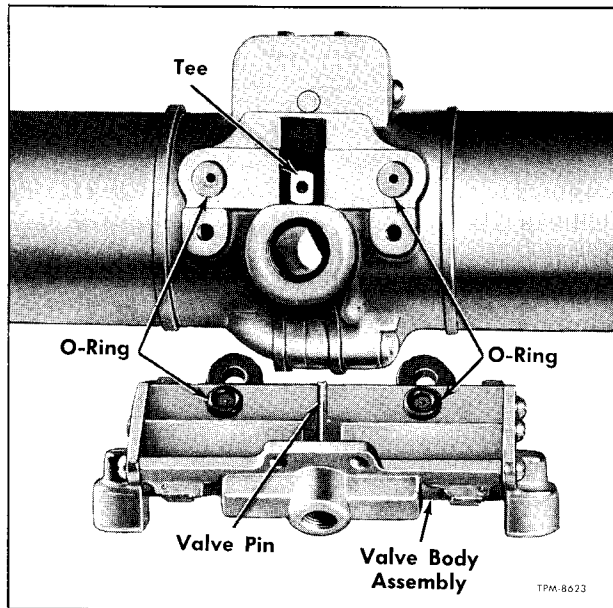
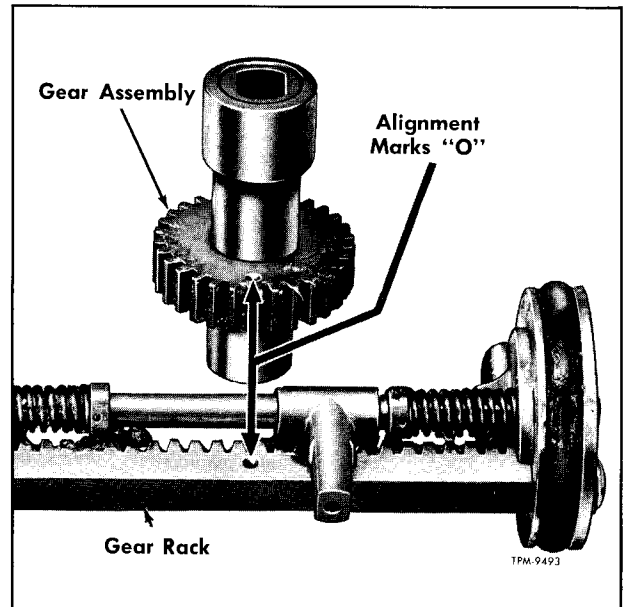

Figure 19—Windshield Wiper Motor Valve Body Removed
Figure 20—Gear-To-Gear Rack Timing Marks
1. Remove retainer (37) which attaches link (36) to motor shaft assembly (35).
2. Remove screw (13) and washer (40) which attach motor transmission shaft (35) into wiper motor. Pull shaft assembly from motor assembly.
3. Remove four bolts (38) which attach mounting bracket assembly (33) to motor. Remove bracket.
4. Remove four screws (30) which attach wiper control valve body (31) to motor piston body assemblies. Remove valve body and body O-rings (23). Figure 19 shows body separated.
5. Place right half of piston body (1) (half with threaded screw holes) in vise so that attaching screws are up. CAUTION: Tighten vise ONLY enough to hold body.
6. Remove screws (15) which attach piston bodies together.
7. Slowly lift off upper piston body (14).
8. Note position of alignment marks ("O") on gear (10) and gear rack (7) (fig. 20). Remove gear assembly, noting locations of thick and thin bearings and the chamfer on the rear bearing.
9. Remove thrust block (12).
NOTE: Make sure chamfer on rear bearing is toward the rear. Install gear and bearings into body. Make sure alignment marks ("O") on gear and rack are aligned (fig. 20).
5. Install left piston body assembly (14) over piston assembly. Attach bodies together with screws (15). Tighten screws firmly.
6. Referring to figure 19, place O-rings (23) on bosses of valve body (31) as shown. Carefully place valve body to motor piston bodies, then install valve body attaching screws (30). Tighten screws firmly.
7. Attach mounting bracket (33) to motor with four bolts (38) and lock washers.
8. Install motor transmission shaft assembly (35) to motor, making sure shaft link is positioned to align with upper wiper arm shaft lever. Install washer (40) and shaft retaining screw (13).
9. Install link (36) to shaft and secure with retainer (37).